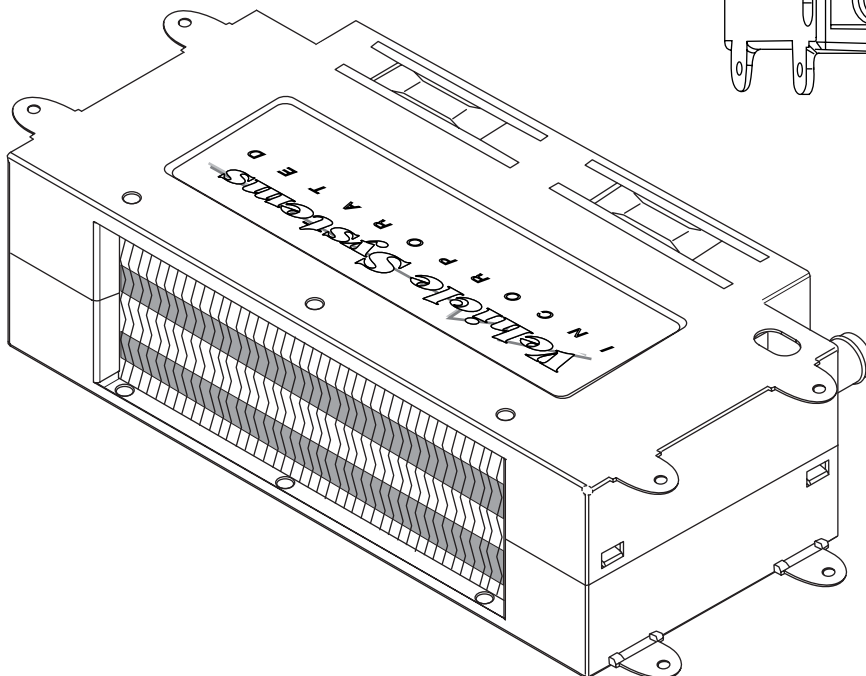

Figure 9
- C. Allow for easy access to all Heat Exchangers for potential servicing and cleaning (i.e. dust, etc . . .). See Figures 9 and 11 for allowable Cozy-III mounting configurations.
Once all permanent mounting locations have been selected, cut out the opening for each outlet-air and return-air Register and fasten down each Heat Exchanger permanently into place. Please reference Figure 9 for allowable Heat Exchanger mounting configurations.